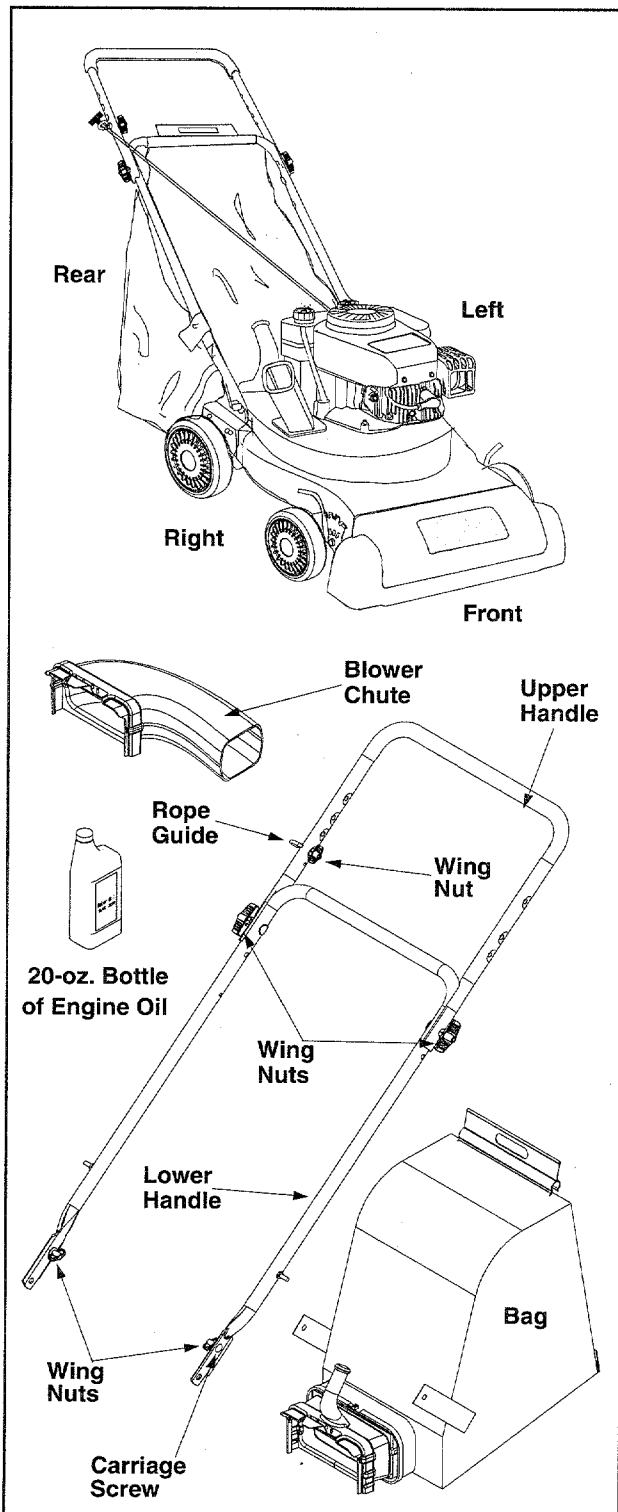

Figure 1
NOTE: To determine right and left hand sides of your Yard Vacuum, stand behind the unit, in the operating position. See Figure 1.
Your Yard Vacuum has been completely assembled at the factory, except for the handle, bag, and blower chute. These parts are shipped loose in the carton. A pair of safety glasses and a 20-oz. bottle of engine oil are also included in the carton. See Figure 1.
See Figure 1.
- Fold up the upper handle until it aligns with lower handle. Make sure the rope guide is on the right side of upper handle. See Figure 1.